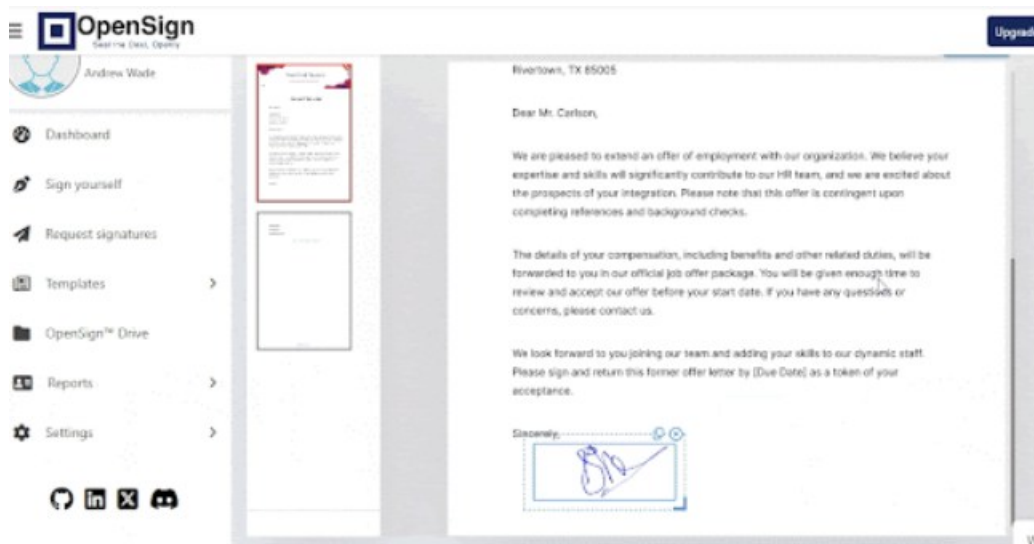

Figure 3: Example digital signature being added.
- Digital signatures (e-signature that is backed by a digital certificate, such as in Adobe or Bluebeam Revu), see Figure 3